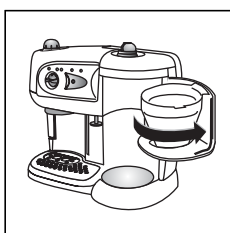

fig. 4
- Open the filter holder door by pulling it to the right (Fig. 4).